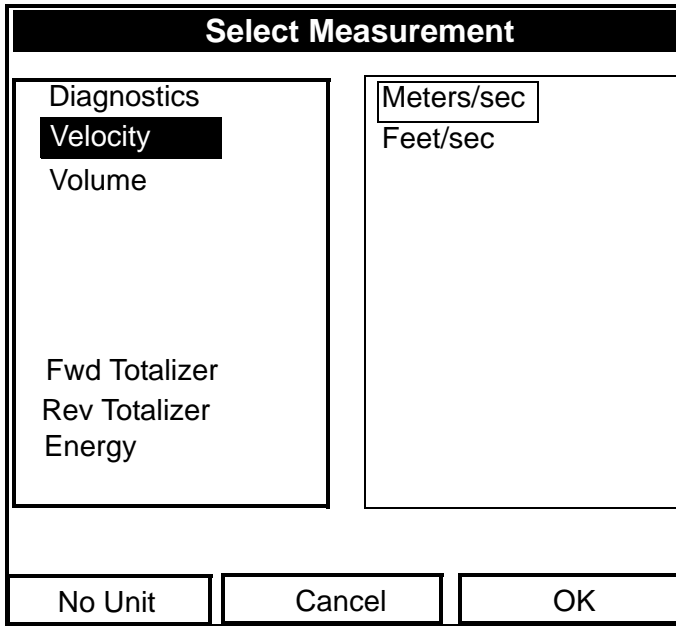

Figure 94: Select Measurement Window
1. Press [ENTER] to open the first entry. The Select Measurement window opens, as shown in Figure 94 on page 139.